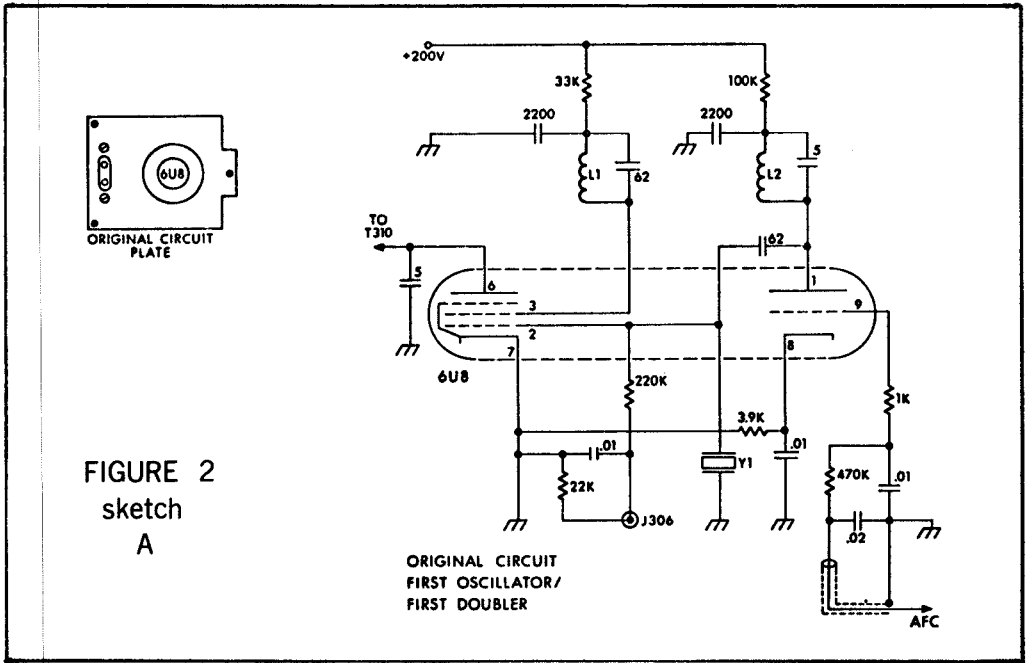

FIGURE 2
If you have already replaced the original AFC-type first oscillator platter with a Progress Line heated-oven circuit, you may skip this section. If not, convert the original circuit to the Progress Line oscillators as shown in the schematic of figure 2. Sketch A of figure 2 shows the original oscillator circuit of the Pre-Prog; the modification is shown in sketch B. The sequence is as follows:
Step 1. Remove the AFC-type first oscillator platter and rewire in accordance with sketch B, figure 2.